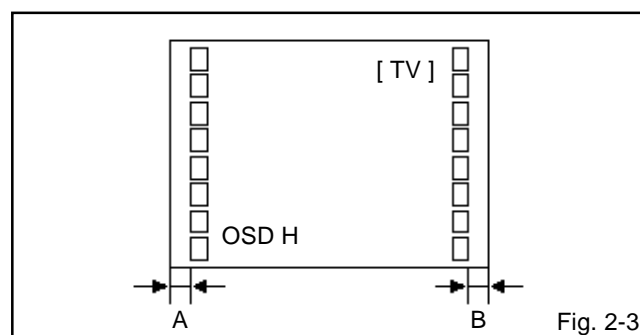

Fig. 2-3
4. Press the VOL. UP/DOWN button on the remote control until the difference of A and B becomes minimum. (Refer to **Fig. 2-3**)